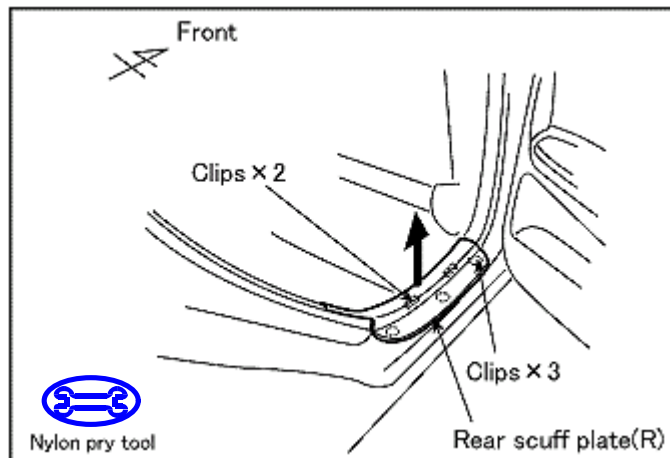

Figure F1
- ➡ 1. Use nylon pry tool to disengage clips on rear right scuff plate. (Figure F1)
2. Remove the rear scuff plate. (Figure F1)